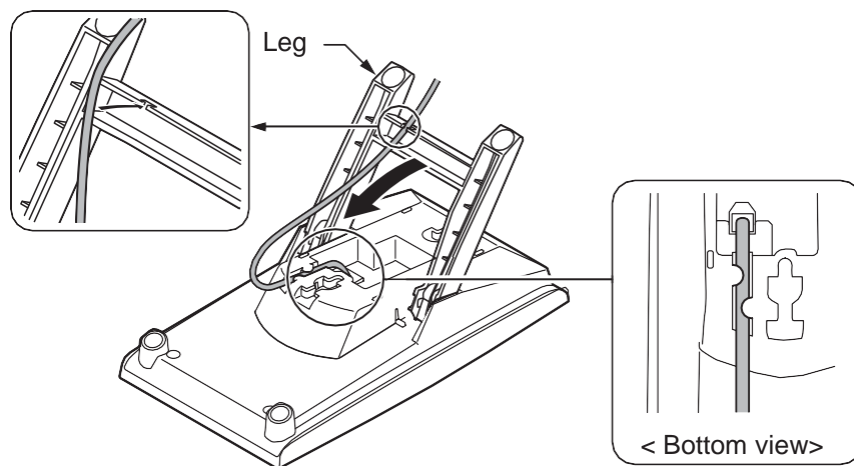

Figure 2-107 Cabling for Wall-Mount
1. Lift the leg and lead the cable through the applicable grooves. Refer to Figure 2-107 Cabling for Wall-Mount. Lower leg to stowed position.